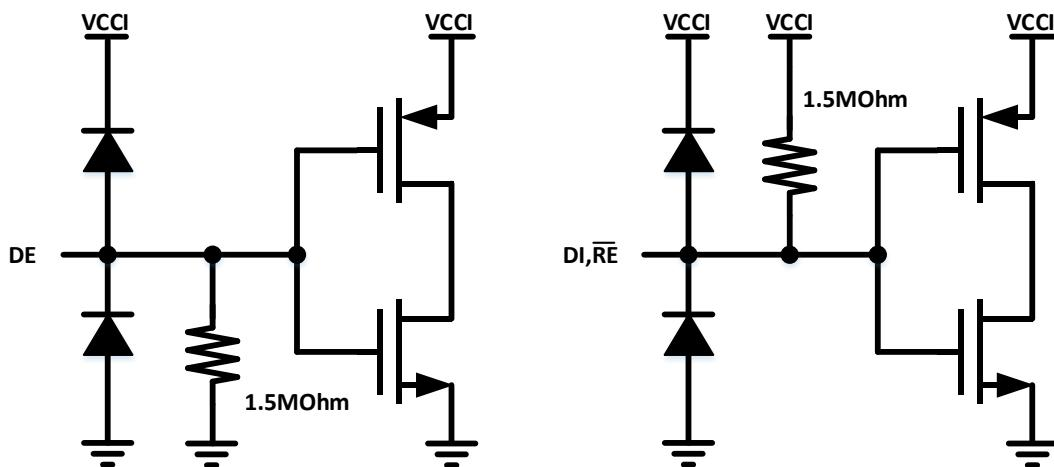

Figure 9-1. Input equivalent circuit
The CA-IS2092x devices include three logic inputs on the logic side: receiver enable, driver enable and driver digital input. The driver enable control DE pin has an internal weak pull-down to GND_A, while the digital input DI and receiver enable pins have an internal pull-up to V_{CC}/V_{CCL}, see Figure 9-1 the input equivalent circuit.
The transmitter converts a single-ended input signal (DI) from the local controller to differential outputs on the bus lines A and B. The truth table for the transmitter is provided in Table 9-2, the driver enable control DE pin has an internal weak pull-down to GNDA, see Figure 9-1 the input equivalent circuit; while the digital input DI pin has an internal pull-up to V_{CC} for CA-IS2092W or V_{CCL} for CA-IS2092VW. The driver outputs and receiver inputs on the bus side are protected from $\pm 20kV$ electrostatic discharge (ESD) to GNDB, as specified by the Human Body Model (HBM). The driver outputs also feature short-circuit protection and thermal shutdown.